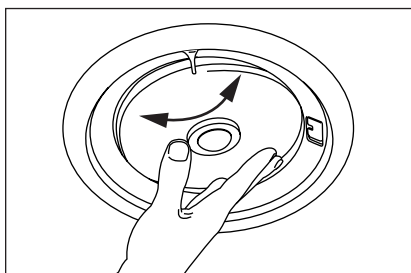

Figure 20 Directing the woofer.
10. Direct the Woofer. The woofer is directed by gently pushing on the outer edge of the grille face. **(See Figure 20).** It will move 15° in any direction. For critical listening point the woofer to the user's favorite listening position minimizing reflections from the side walls. For surround sound or low volume background listening create more reflections and thus more ambience by directing the woofer towards the side walls.